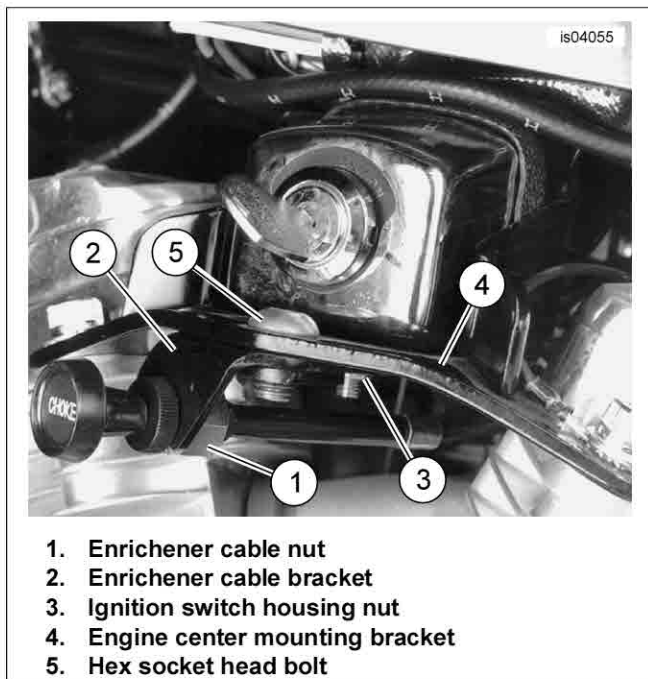

Figure 3. Original Enricher Bracket, 1992-1994 Models
6. See Figure 3. Loosen the nut (1) on the back of the enricher cable. Remove the cable from the enricher bracket (2), and let it hang free.
7. Loosen the ignition switch housing lock nut (3) on the underside of the engine center mounting bracket (4). Remove the hex socket head bolt (5) and the original equipment enricher bracket from the top of the engine center mounting bracket.